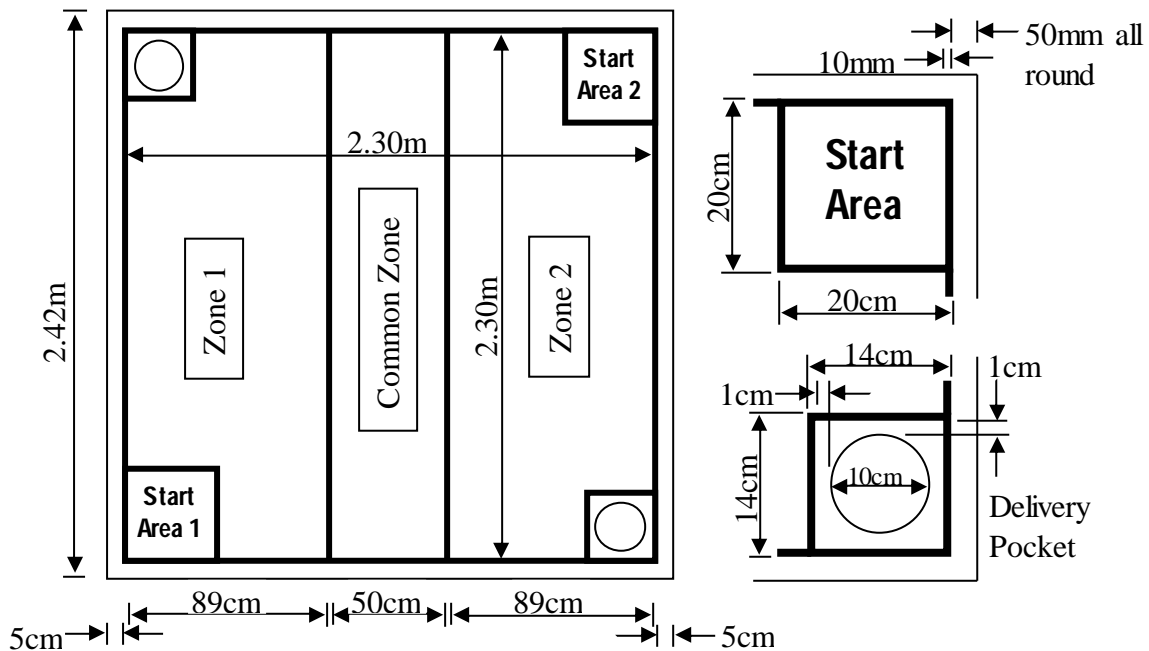

Figure 1 Robot Colony Platform
2.1 The platform will cover a square area of dimensions 2.3m x 2.3m as shown in Fig 1. There are no walls bordering the platform.